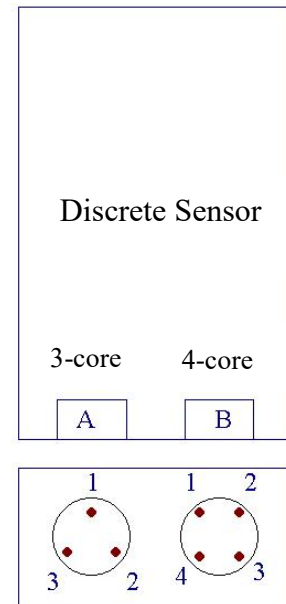

Fig. 10-2
10.2 Use ohmmeter to measure the discrete normal sensor (Fig. 10-2)
- a. Three stainless steel tubes shall be connected with each other and be connected with pin (3) of the 3-core terminal.
- b. The resistance between three pin (1) and pin (2) is about 8——15KΩ.
- c. The resistance between 4-core terminal pin (1) and pin (2) of the sensor is about several hundreds of Ω.